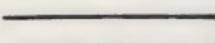

FIG. 3.
**20. Parallel lines** (Fig. 3) are those which are equally distant from each other at all points.